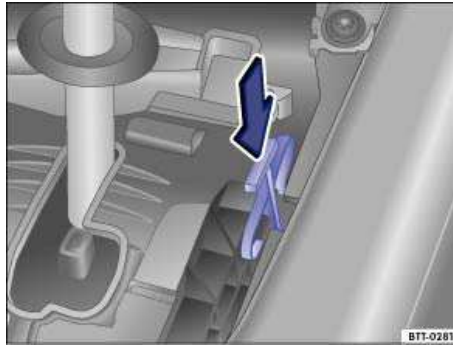

Fig. 187 Releasing the selector lever lock.
- Push the release lever ⇒ fig. 187 in the direction of the arrow and hold it in this position.